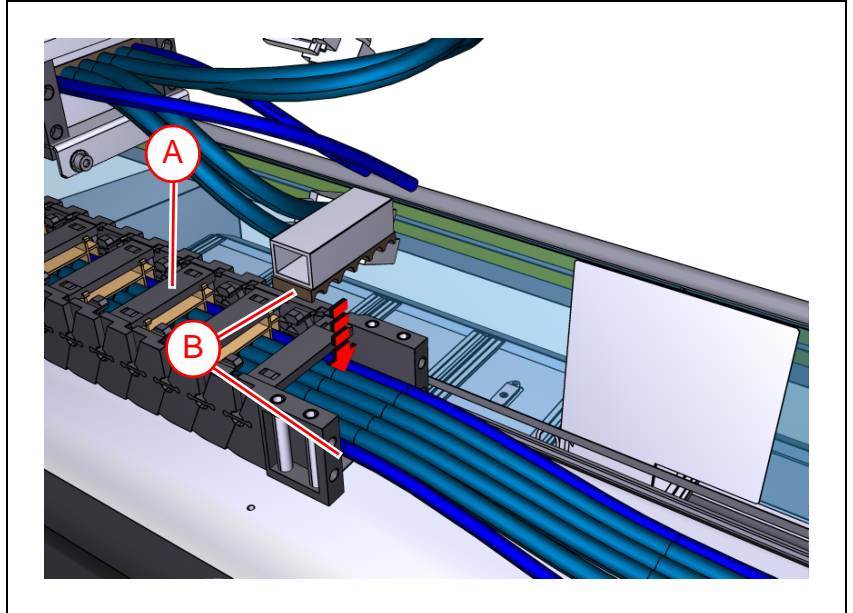

Figure 5-34. Align metal blocks.
2. Place the cable chain ('A' in Figure 5-34) on the X beam and align all cables between the two metal blocks with rubber recesses ('B').